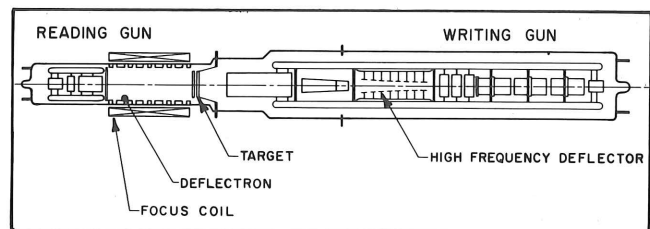

Figure 3. The target in the tube for the R7912 Transient Digitizer is a diode array.
**Figure 3.** This is the hot chamber for thermal shock. In the foreground is the basket which holds components. The basket is lowered into a tub of nearly boiling deionized water which sits in large Styrofoam insulated container in background. Large container holds ordinary tap water which is heated by immersion heaters. Cold chamber is not shown.